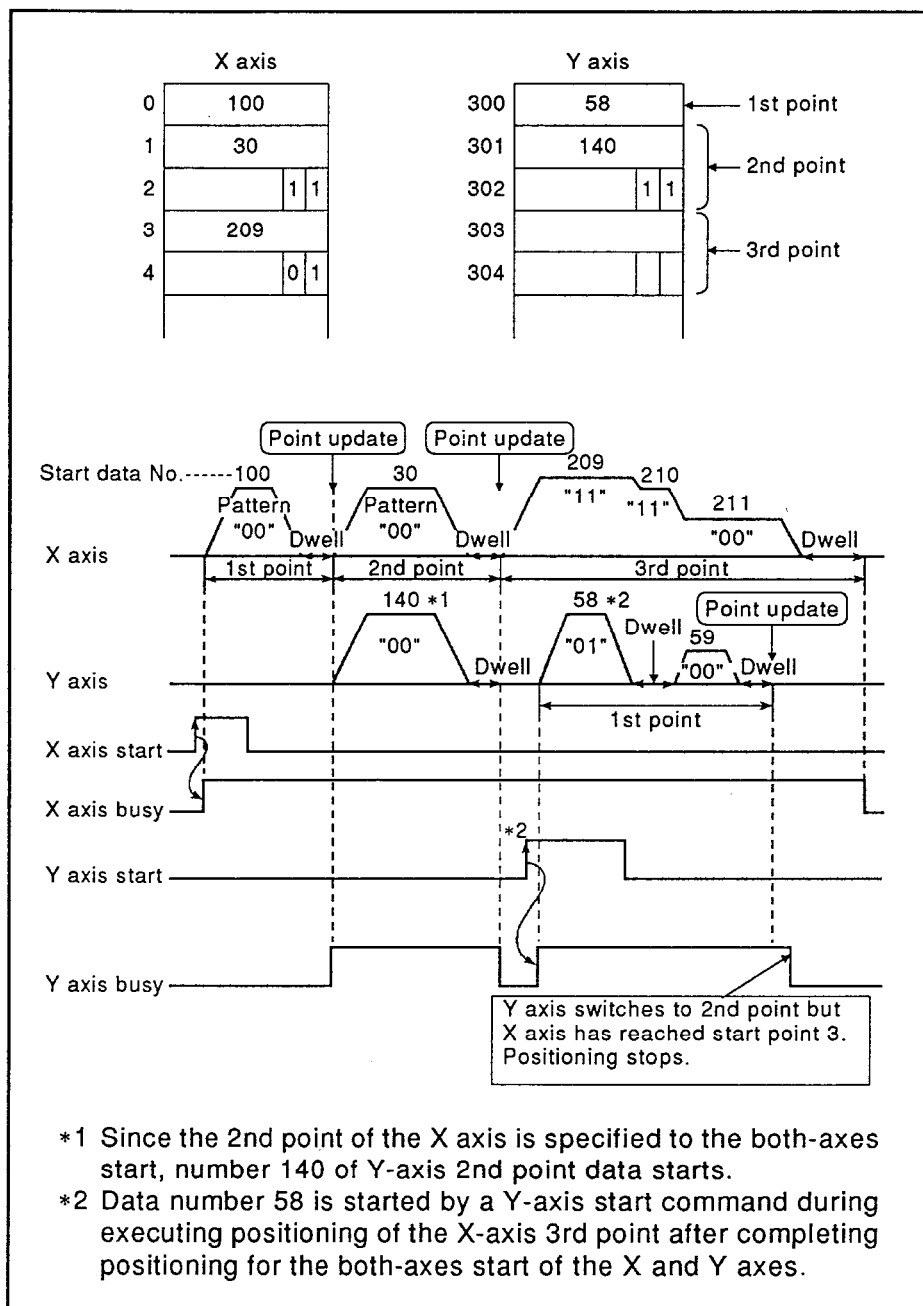

Fig. 3.41 Start Data Example 6
- Processing will stop if one axis proceeds ahead of the other and dual axis processing is called. See Fig. 3.41.